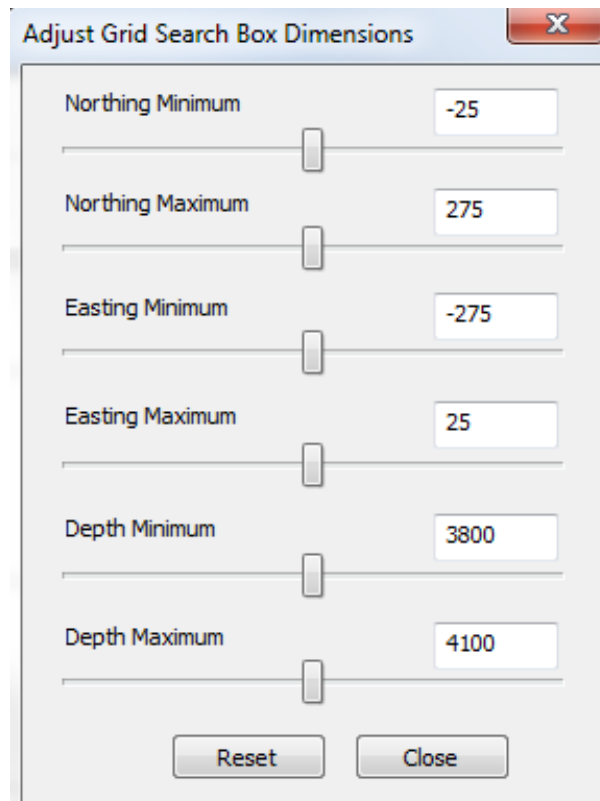

Figure 5-51: Dialog Box to adjust the Grid Search Box in 3D Visualiser.
3. Select the velocity model to use. Click on the Velocity Model Settings button to display the configuration parameters (Figure 5-51) for the model (see the Technical Appendices section 3.1).